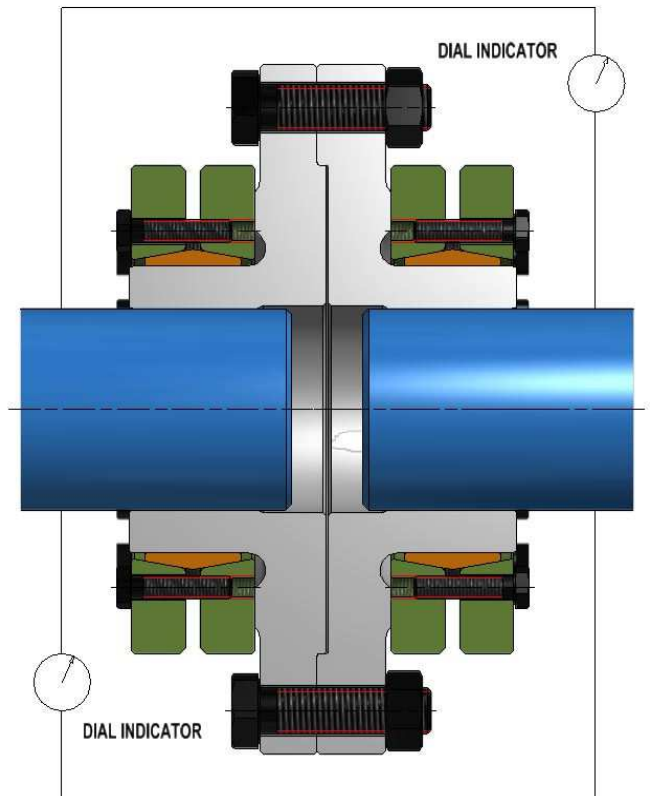

Figure 4. Flange Coupling installed – check of runout
14. Using dial indicators per Figure 4, make sure that runout values are within 0.13 mm TIR (total indicator reading).